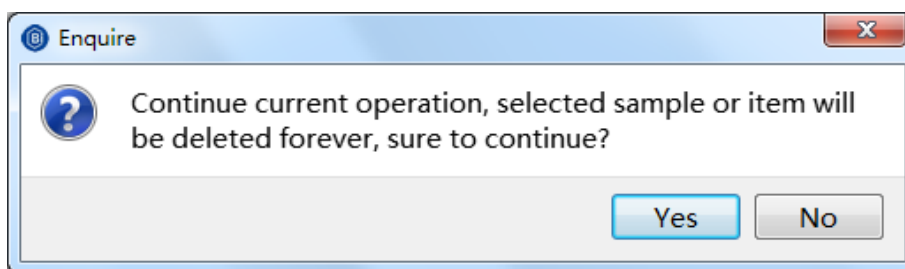

Figure. 8.3.14 Confirm deletion
- Click **Delete**, or select the sample, select the item to be deleted in the test item list on the right side of the interface, click **Delete**, the system prompts a dialogue box to confirm the deletion, as shown in Figure 8.3.14